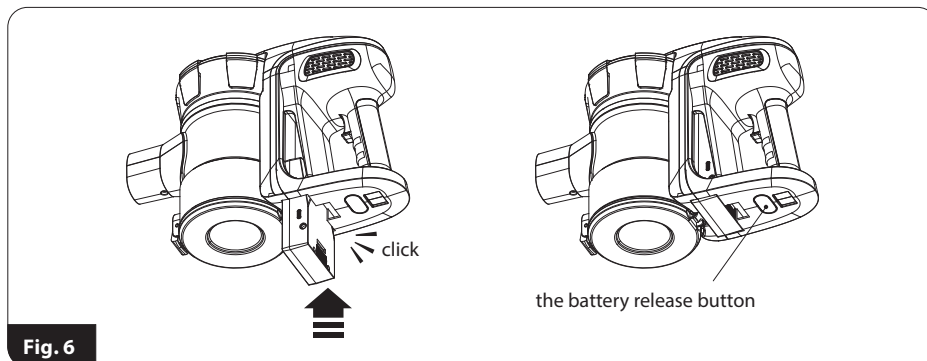

Fig. 6
1. Install the battery pack (4) in the motor module (1). Make sure it has taken its place in the vacuum cleaner correctly (fig.6). Removing the battery from the vacuum cleaner is only possible when the button (5) is pressed and held down.